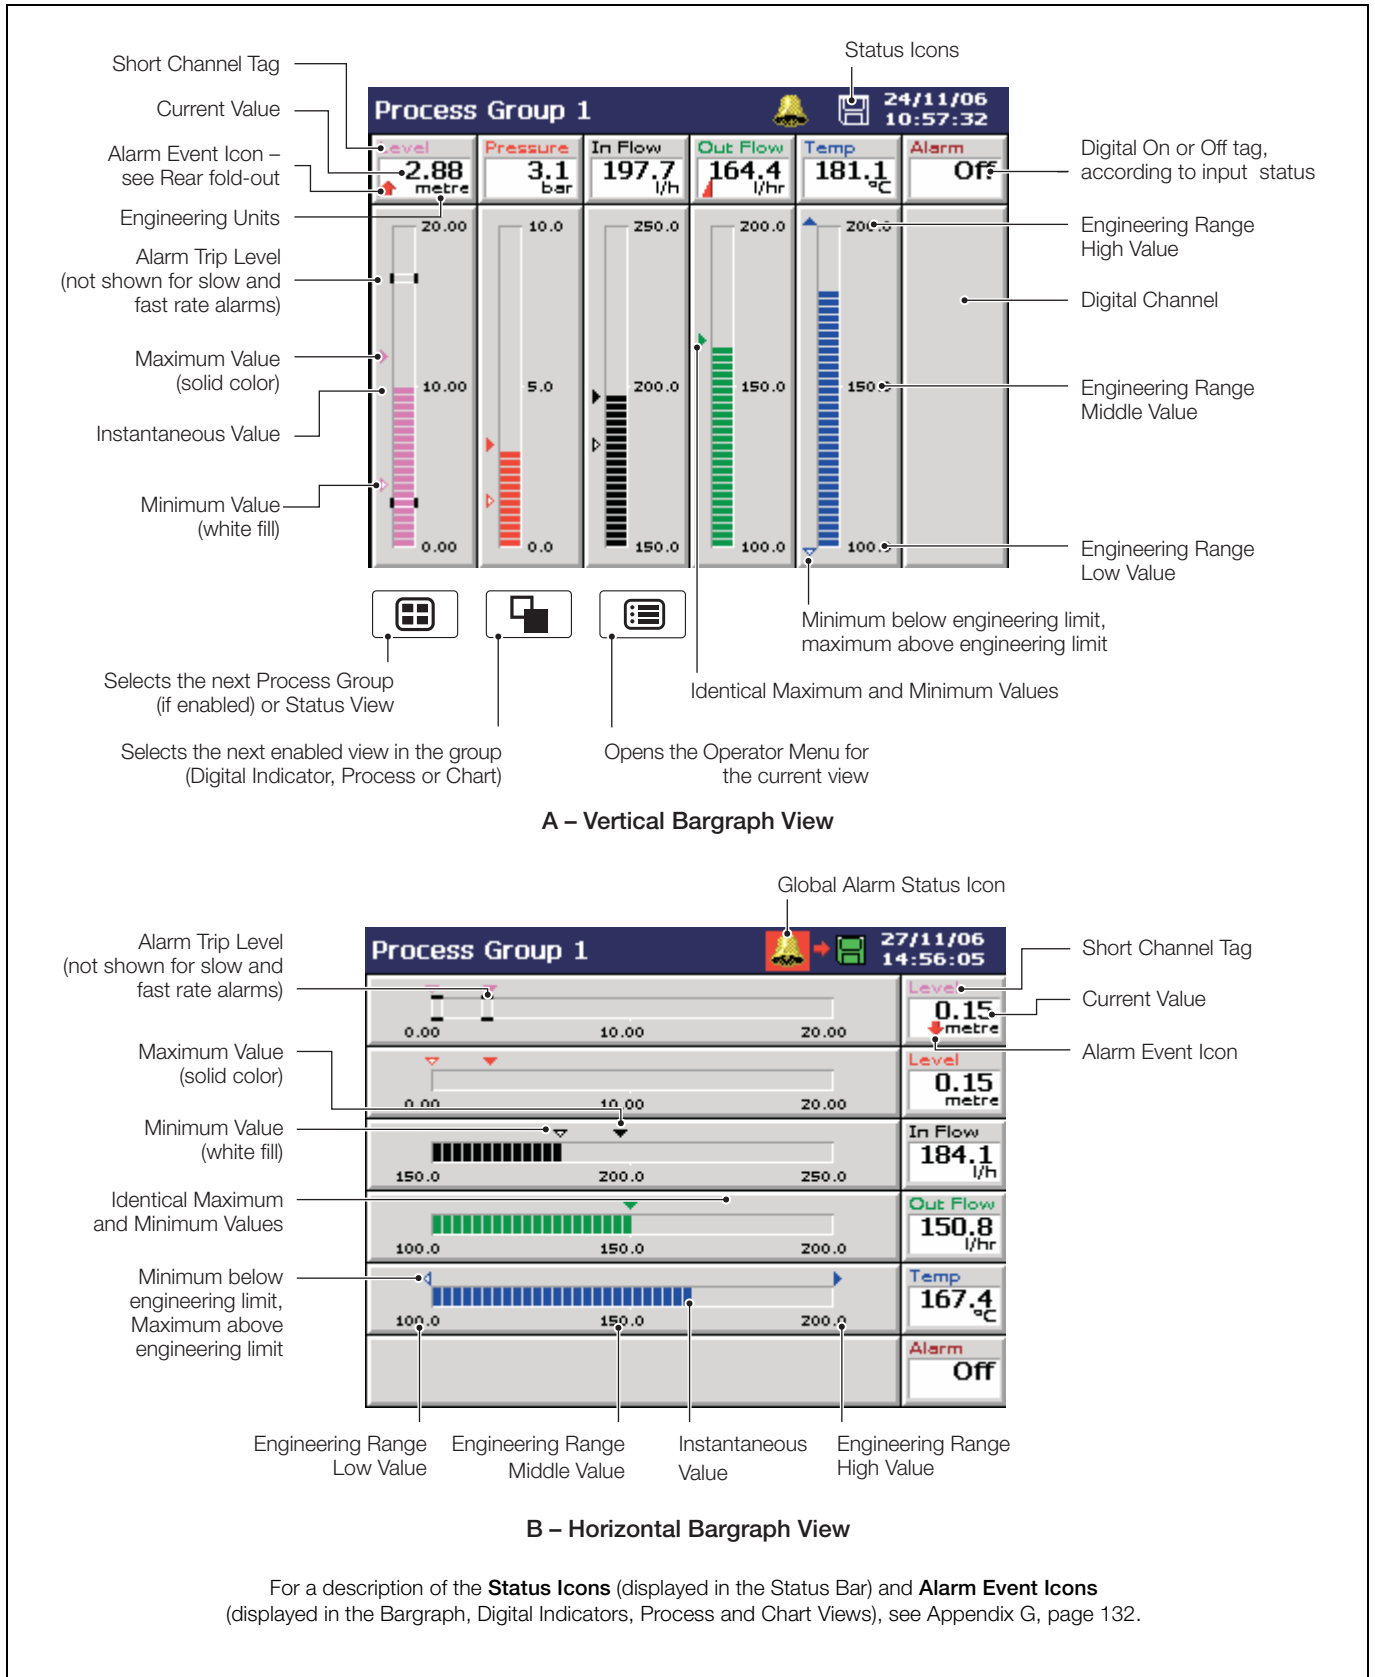

Fig. 2.5 Bargraph Views
2.4 Bargraph Views – Fig. 2.5
Note. Active unacknowledged alarms in the current process group are identified by a flashing red Alarm Event icon in the bottom left hand corner of the associated indicator. Active acknowledged alarms are identified by a continuous red Alarm Event icon in the bottom left hand corner of the indicator – see Fig. 2.5, page 15.